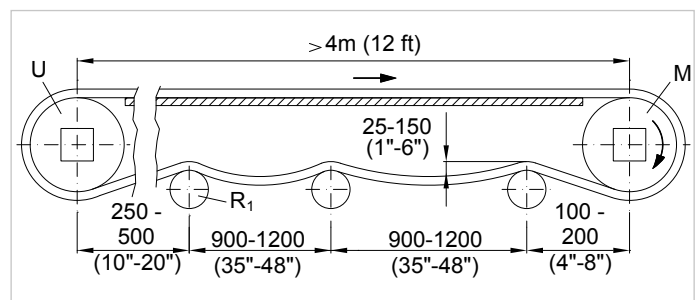

Figure 60
**Long conveyors** (over 4 m (12 ft)) (Fig. 60)